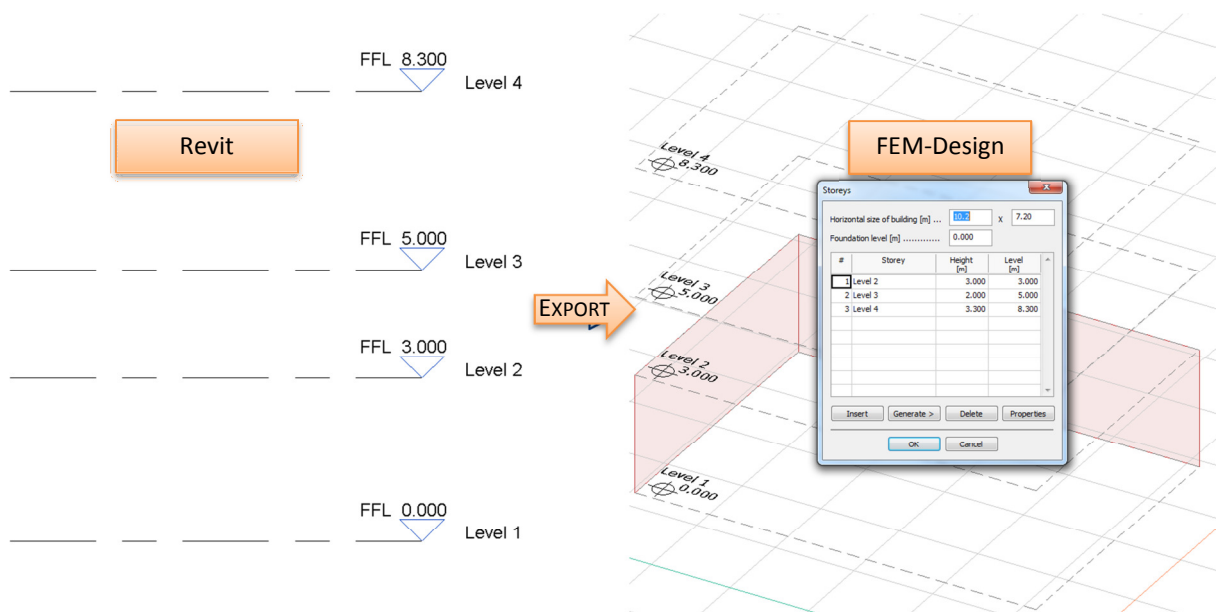

Figure II-22
- Size of the *Storey* in FEM-Design is calculated based on the placement of most outer elements in the Revit model and included as a *Horizontal size of building* in the *Storey* dialog, as shown in Figure II-22.